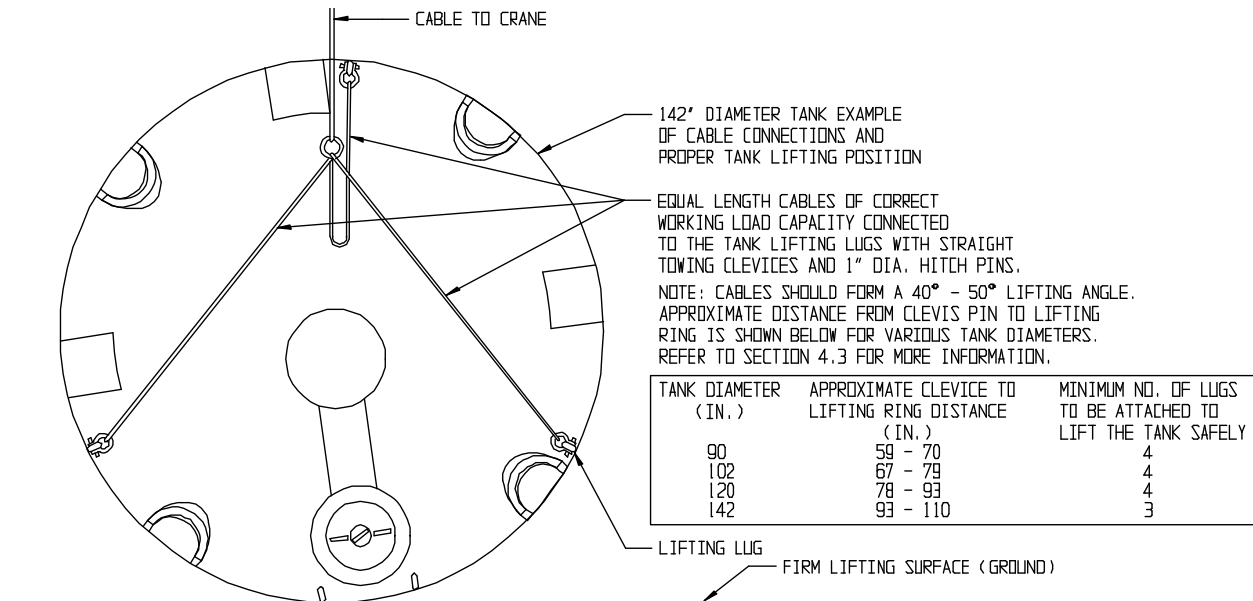

Figure 4.2
4.3.4 After the tank has been placed on a firm, level surface in a horizontal position, the lifting lugs may be used to erect the tank in a vertical position on an appropriate support pad. The tank should be lifted using a symmetrical arrangement of lugs to disperse the load evenly throughout the tank. To properly attach to the lifting lugs a straight clevis should be used with a minimum open throat distance of 1-1/2" and 1" diameter pins. A minimum of 4 lugs should be attached with equal length cables on all large vertical tank sizes except 142" diameter tanks. 142" diameter tanks require 3 lugs to be attached. All tanks should be positioned with 2 lugs closest to the ground prior to lifting the tank to the vertical position. Refer to Figure 4.2 for additional in-